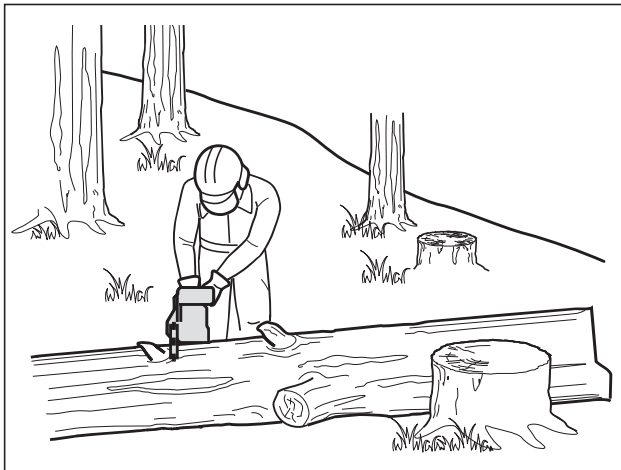

Fig. 28
- When bucking on a slope always stand on the uphill side of the log. When "cutting through", to maintain complete control release the cutting pressure near the end of the cut without relaxing your grip on the product handles. Do not let the chain contact the ground. After completing the cut, wait for the saw chain to stop before you move the product. Always stop the engine before moving from tree to tree(Fig.28).